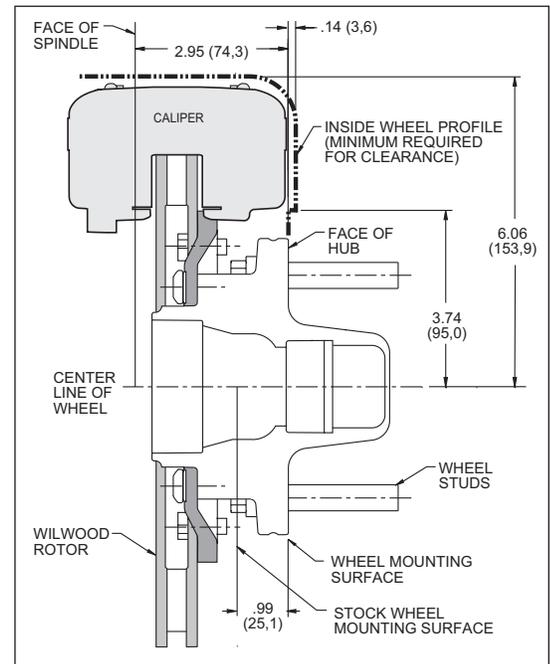

Figure 1. Wheel Clearance Diagram
- Verify wheel clearance, see figure 1.